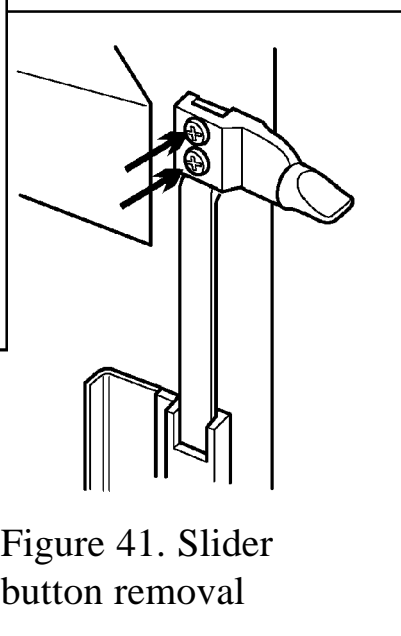

Figure 41. Slider button removal
3. Detach the control slide button from the slider control by removing two screws (See figure 41).